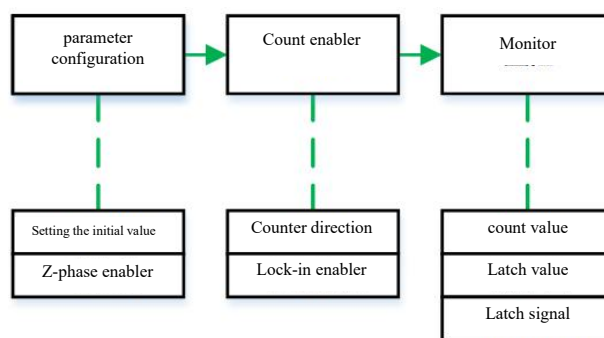

Figure 6-3-1 Basic configuration process
- In the encoder module, there are three signal types: differential, NPN and PNP, but the modules are used in the same way. The input and output are shown in Table 6-3-1, and the basic configuration process is shown in Figure 6-3-1.